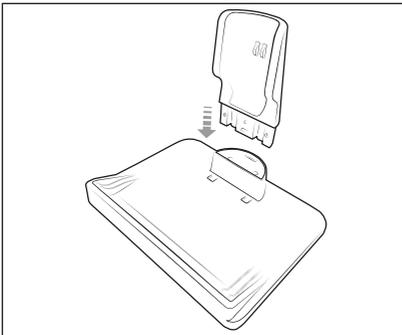

Fig. 2
- 1) Connect the two parts of the charger **9** together (see Fig. 2).